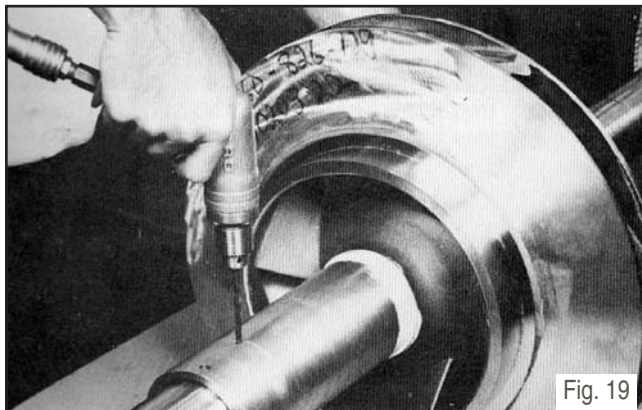

Fig. 19
NOTE: For impellers with replaceable rings, heat each new ring (142) and slide it onto the impeller. Hold rings against the impeller shoulder until they cool. (See Fig. 19)
3. Place both shaft sleeve keys (401) on shaft (122).
4. Slide sleeve gaskets (428) onto shaft and against hubs of impeller.
5. Slide sleeves (126) onto shaft.
6. Place the sleeve O-ring (497) onto the shaft, into the sleeve counterbore. Verify that Dimension “A” (Fig. 16) is maintained, then using a pin spanner wrench and hammer, securely tighten the shaft sleeve nuts (124). Then, drill a shallow recess in the shaft through the set screw hole in each of the shaft sleeve nuts. Lock each shaft sleeve nut in position with cup point set screws (222B). (See Fig. 19) A low strength sealant, such as Loctite 271, can be used to retain set screws.